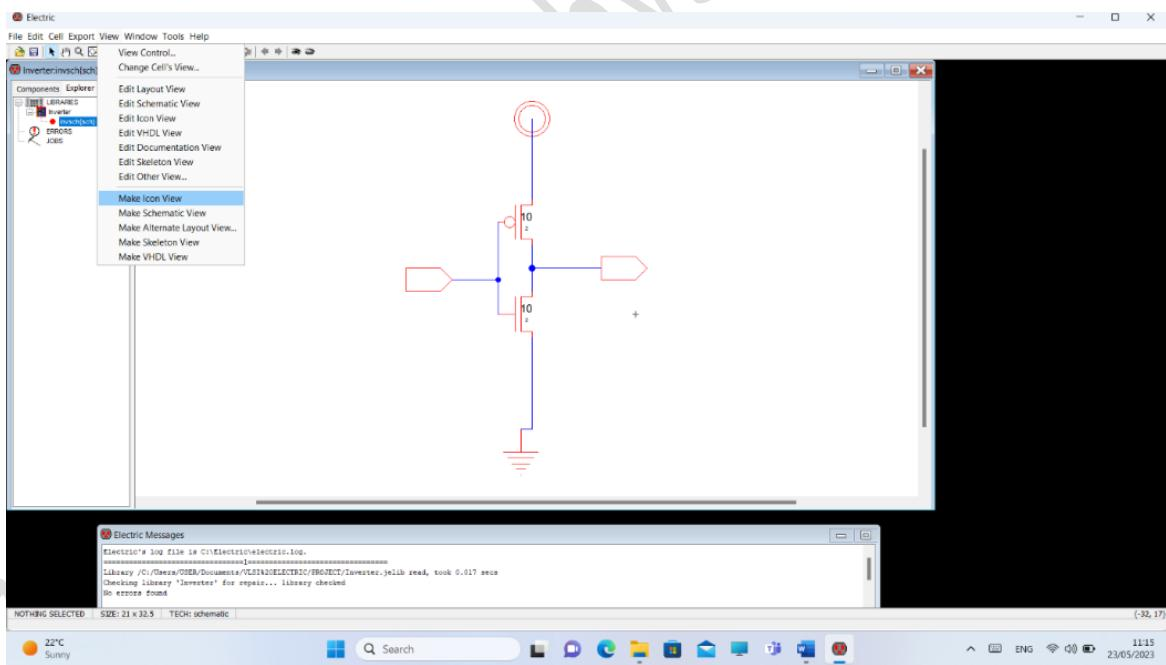

Figure 1.29: Making icon from the schematic.
21. How to make an icon for your schematic View>> Make Icon View >> (see Figure 1.29):